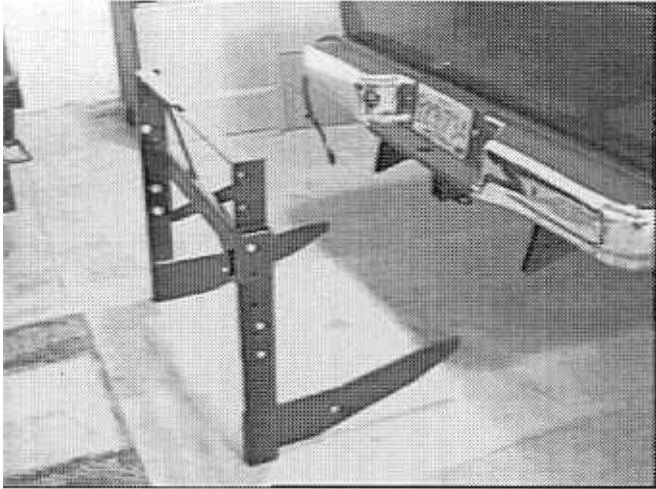

Figure 11
1. Position secondary frame behind truck and insert mount bars of secondary frame into subframe pockets. See Figure 11.